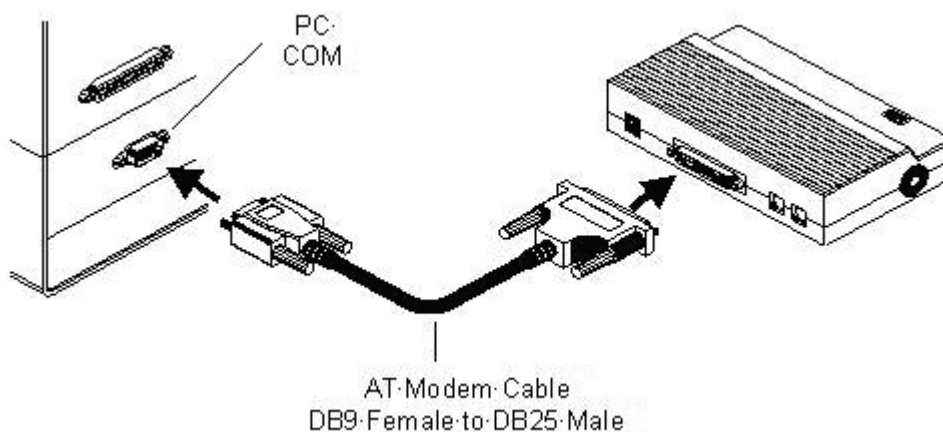

Figure 2-4. Connecting a Modem to a Computer for Programming
2. Connect the modem to the computer's COM port (no telephone line is needed). See Figure 2-4.